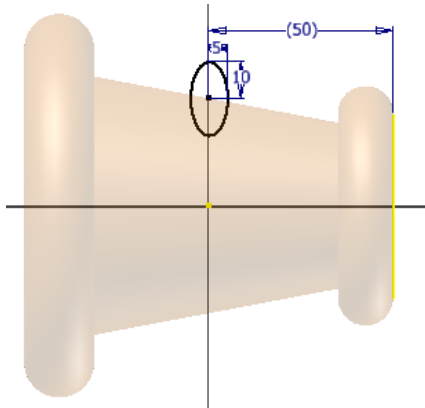

Figure 18-54 Ellipse created on the XY plane
1. Define a new sketch plane on the XY plane and then create an ellipse, as shown in Figure 18-54. Note that the center point of the ellipse should be coincident with the edge of the base surface.